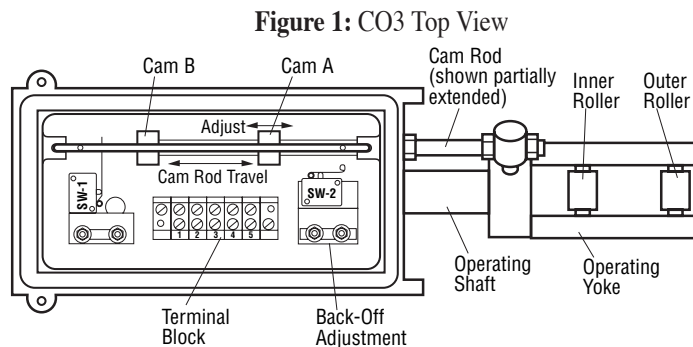

Figure 1: CO3 Top View
3. Locate and remove outer roller of the CO3 operating yoke (**Figure 1**).
7. Open control housing cover and locate Cam "A" (**Figure 1**). Loosen the two set screws on Cam "A" and slide the cam all the way to Cam "B". **NOTE: Do not disturb setting of Cam "B". It is factory adjusted for proper operation.**